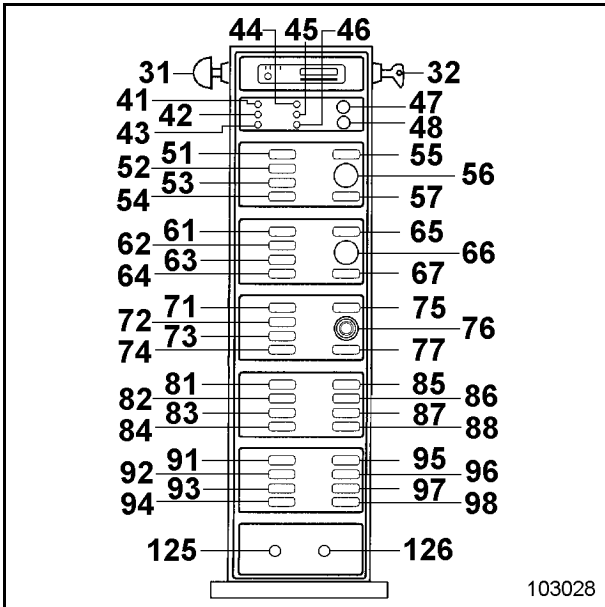

Fig. 2-53:
The electrical system is switched on with key-switch (32, Fig. 2-53:).
- ➔ Activate emergency OFF pushbutton (31, Fig. 2-53:)